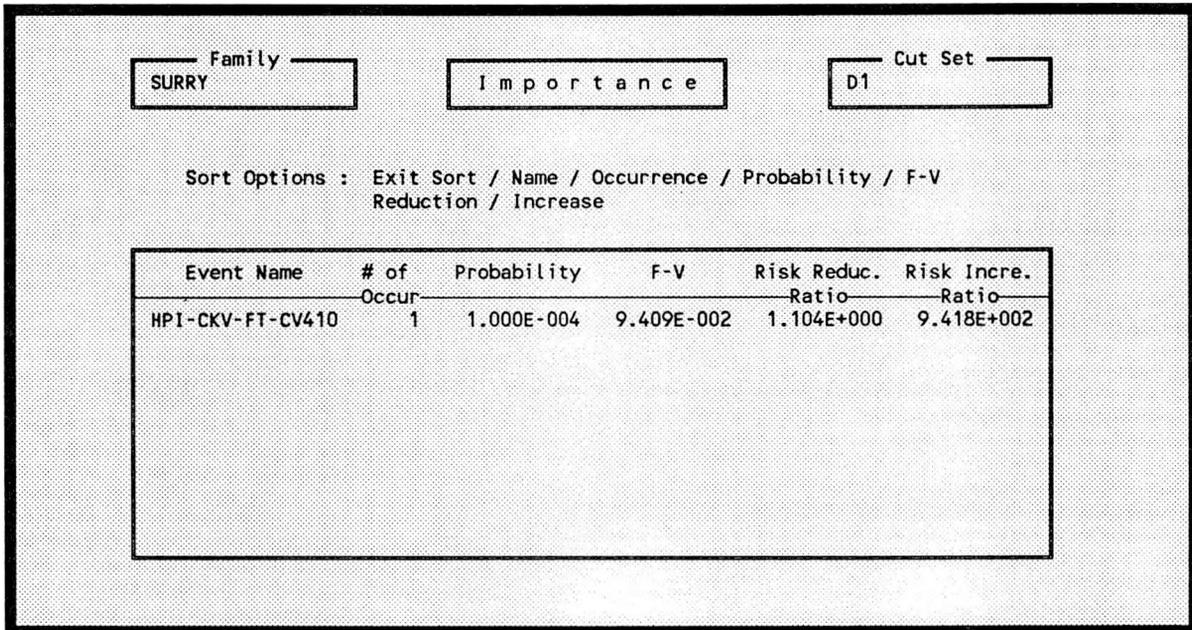

Figure 91. Importance measures sorted by probability.
5.4.3.5 Sort. When you invoke this option, Figure 91 will be displayed. As shown, the data can be sorted by the following: Name, Occurrence, Probability, F-V, Reduction, and Increase.